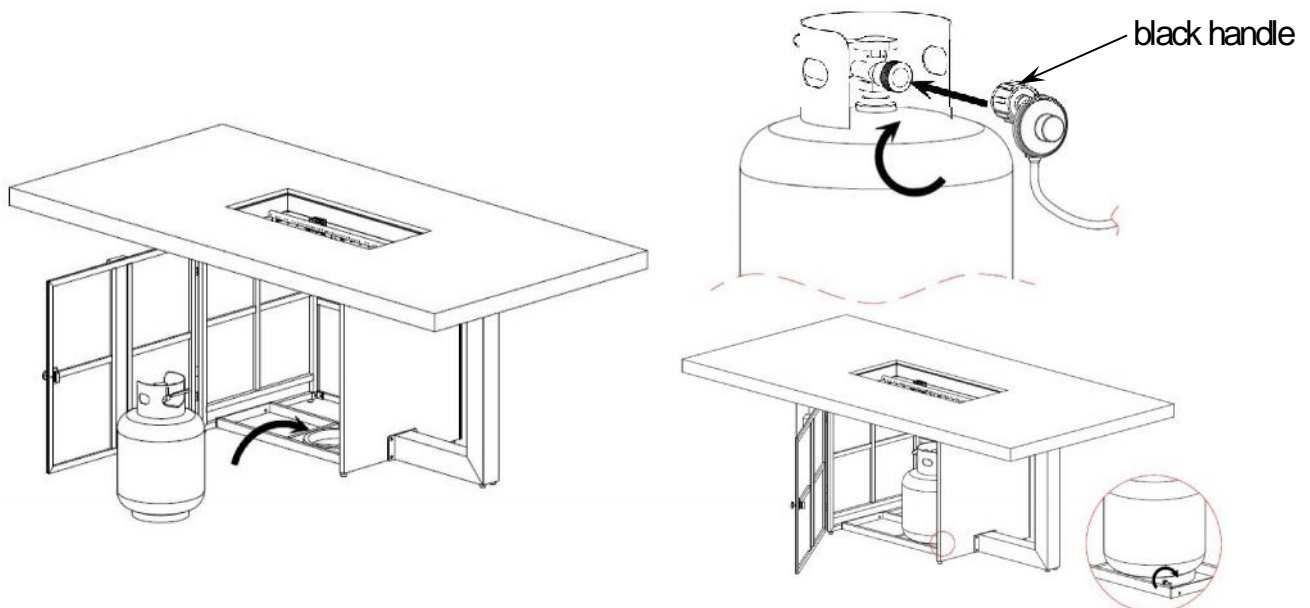

Figure 9
10. Open the door, place the gas cylinder into the Gas cylinder support (H), connect the regulator, screw the black handle clockwise to tighten, turn the black handle counterclockwise to remove. The hose must point down. The knob on the control panel is turned all the way to the "OFF" position when fire pit is NOT in use. Secure the gas cylinder by tightening clockwise the butterfly screw found on the Gas Cylinder Support (L), so that the gas cylinder cannot move from side to side or fall down. See Figure 9.